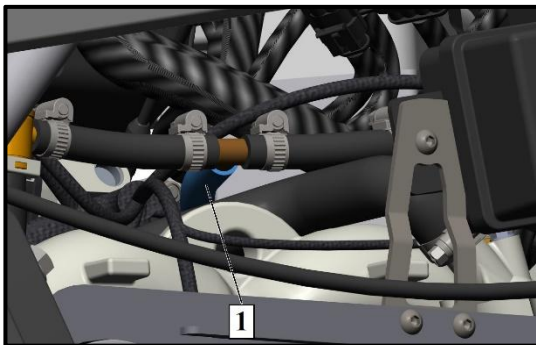

Fig. 14
6. Remove the fuel hose (Position 1, Fig. 14) from the T-shaped fuel pipe fitting. Cover the hose with a safe hose clamp or close the hose opening with a hose plug.